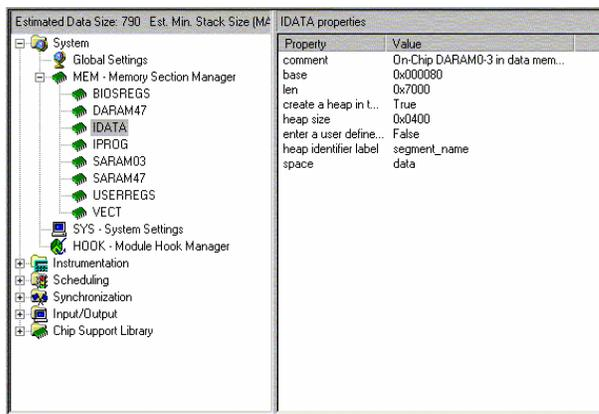
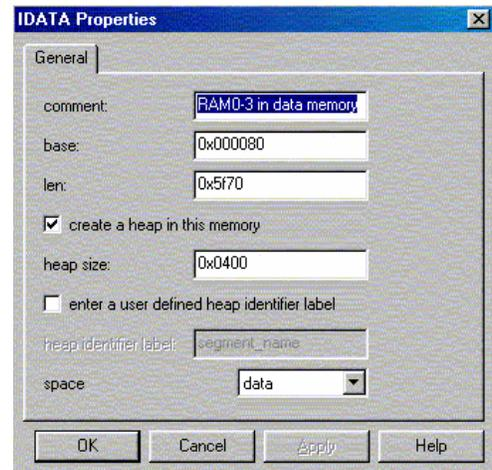

Figure 2. IDATA Section Selection
Figure 3. IDATA Section Remapped
1. Expand System module in the configuration tool. Right click on IDATA and select properties as shown in Figure 2. Change *len* property to 0x5F70 as shown in Figure 3.